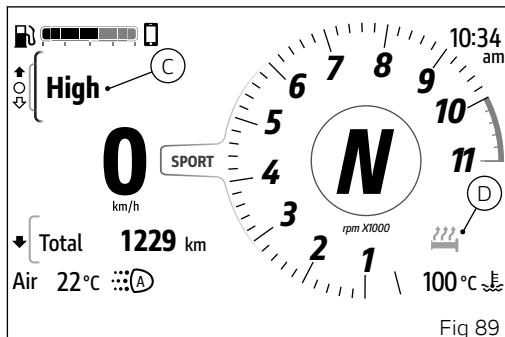

Fig 89
Window (C, Fig 89) is displayed for adjusting the handgrip heating; here the 4 available levels (High, Medium, Low, Off) and the "Back" item are listed. Use buttons (1) and (2) to scroll through the available levels. Press the ENTER button (3) to confirm the selected level. To close the window, select the "Back" item and press the ENTER (3) button, or press and hold button (1).
Each level is associated with an icon (D, Fig 89), displayed in grey when heating is off. When the heating is activated, the icon turns black if the display is in "day" mode and white if the display is in "night" mode.